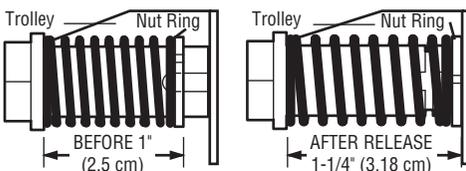

Figure 3
3. Place a 7/16" open end wrench on the square end. Rotate about 1/4 turn until the spring releases and snaps the nut ring against the trolley (Figure 3).